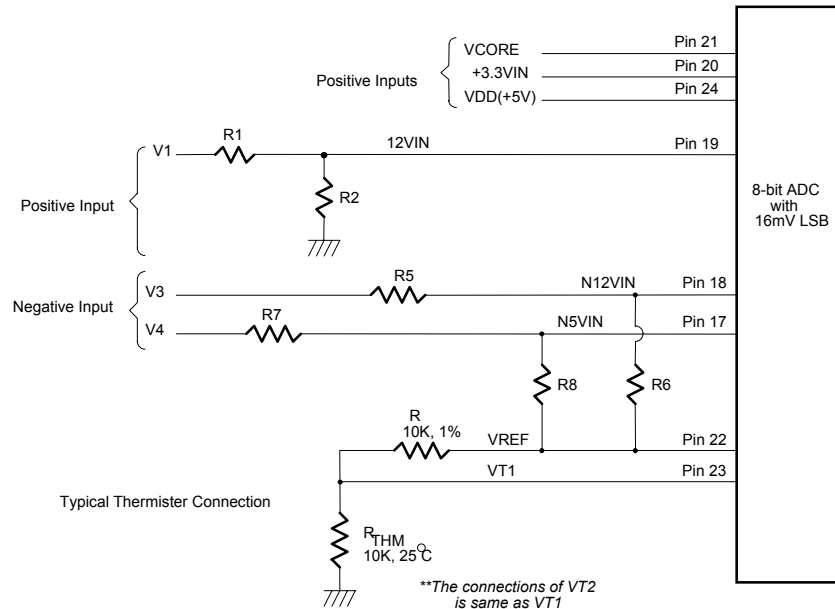

Figure 11.
The maximum input voltage of the analog pin is 4.096V because the 8-bit ADC has a 16mv LSB. Really, the application of the PC monitoring would most often be connected to power suppliers. The CPU V-core voltage, +3.3V and battery voltage can directly connected to these analog inputs. The 5VSB and +12V inputs should be reduced a factor with external resistors so as to obtain the input range. As Figure 11 shows.
The negative voltage should be connected two series resistors and a positive voltage VREF (is equal to 3.6V). In the Figure 11, the voltage V3 and V4 are two negative voltage which they are -12V and -5V respectively. The voltage V3 is connected to two serial resistors then is connected to another terminal VREF which is positive voltage. So as that the voltage node N12VIN can be obtain a posedge voltage if the scales of the two serial resirtors are carefully selected. It is recomanded from Winbond that the scale of two serial resistors are R5=232K ohms and R6=56K ohm. the The input voltage of node -12VIN can be calculated by following equation.
The W83783S can connect three thermistors to measure three different environment temperature. The specification of thermistor should be considered to (1) β value is 3435K, (2) resistor value is 10K ohms at 25°C. In the Figure 11, the thermistor is connected by a series resistor with 10K Ohms, then connect to VREF (Pin 37).